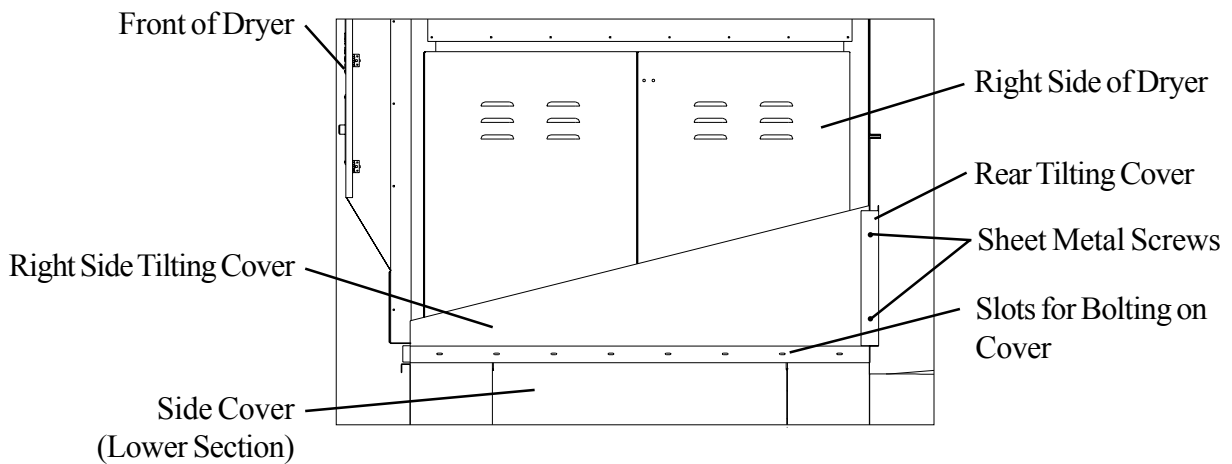

Figure-5A
STEP 14: There are three tilting covers that need to be put in place before operating the dryer. Put the right side tilting cover on the dryer first. The end of the cover that has the angled point goes toward the front of the dryer. When you are holding the right tilting cover the bent flange on the bottom should be bent away from you. Put the tilting cover on the dryer as shown in Figure-5A & 5B. The front edge of the tilting cover should be even with the front of the dryer's frame. You will need to align: the slots in the tilting cover; the holes in the lower side cover; and the tapped holes in the dryer frame when bolting on the tilting cover. The remaining slots in the cover can be attached using sheet metal screws.
STEP 16: Put on the rear tilting cover. The flange with the slots goes down and the end flanges go on the outside of the side tilting valences (See Figure-5A). Attach the rear tilting cover using sheet metal screws through the slots on the bottom of cover. Attach the ends of the rear tilting cover to side covers using sheet metal screws.